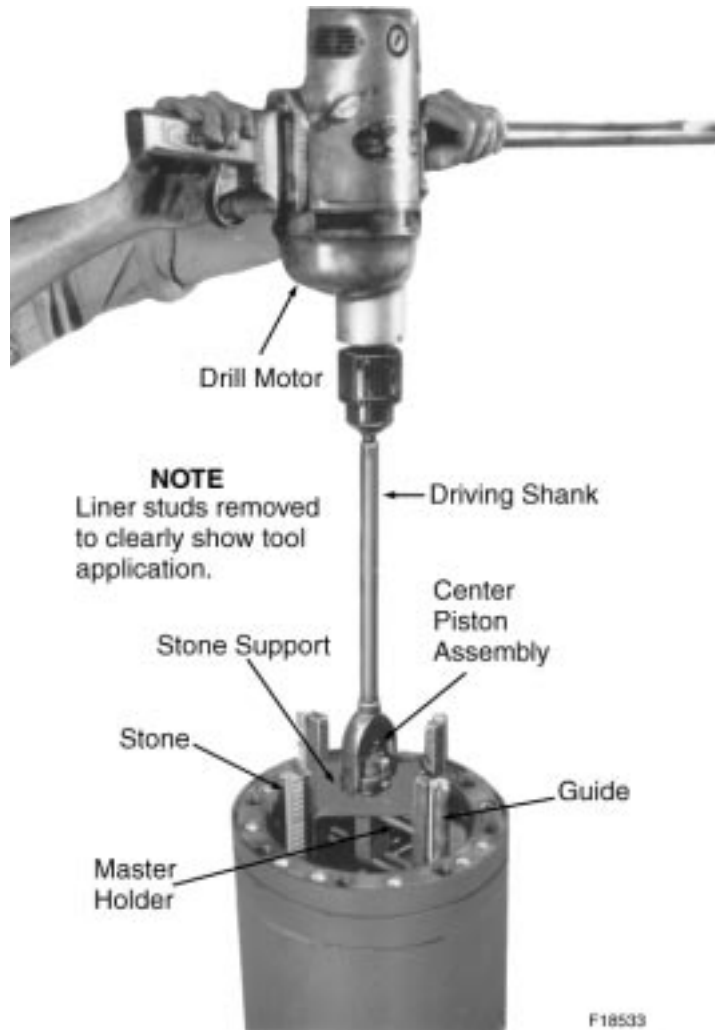

Figure 4-11. Honing Cylinder Liner
4. Chuck the hone shank in the drill motor, and insert the hone into the liner, Figure 4-11. on page 4-12. Stones should not protrude more than 12.7 mm (1/2") out of liner bore.